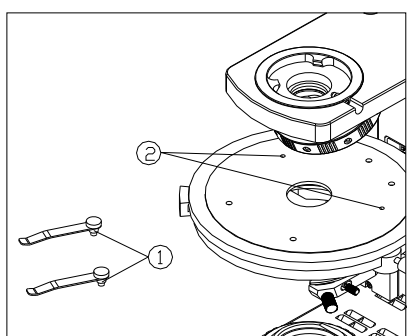

Fig.7
Plug the two stage clip pins① into the hole② on rotatable stage thoroughly. (See Fig.7)